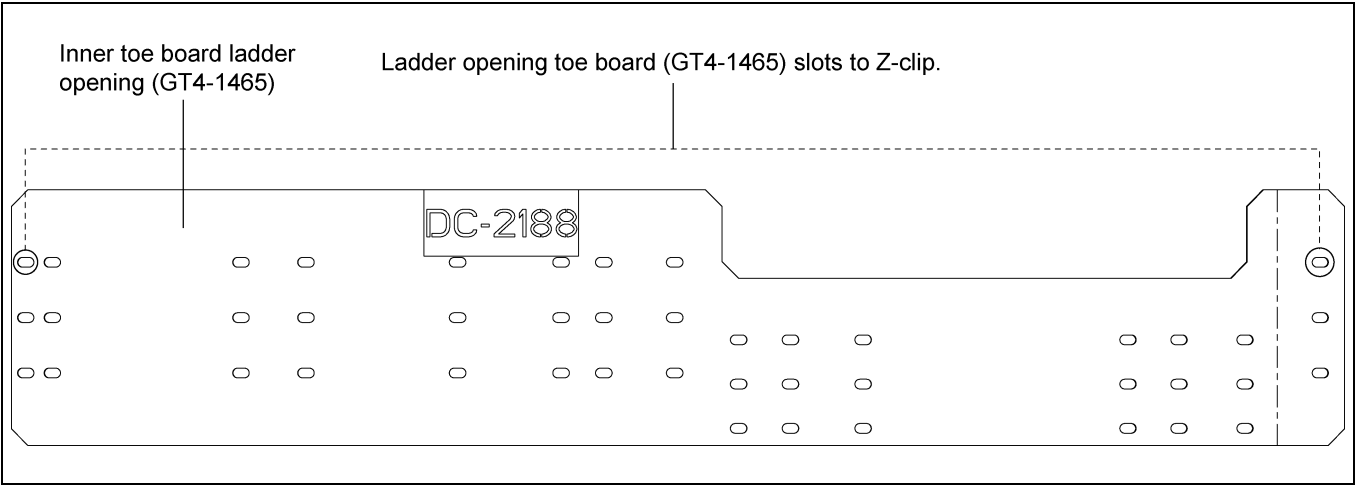

Figure 4H 12' Ladder Opening Toe Board (GT4-1465)
2. At the ladder location, install the ladder opening toe board (GT4-1465) to Z-clips using 3/8"-16 x 1" JS grade 8 or grade 8.2 bolts (S-7485) and 3/8"-16 ZN grade 5 nuts (S-968) in such a way that toe board opening falls on the ladder path. *(See Figure 4G below and Figure 4H on Page 18.)*